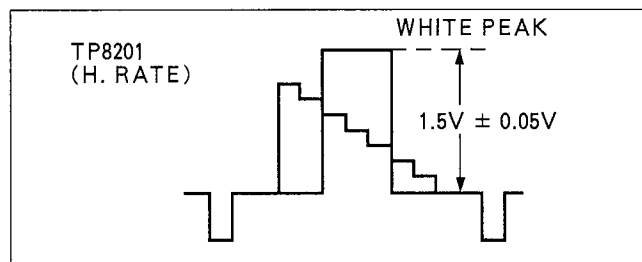

Figure E17
2. Adjust VR8202 so that the level becomes 1.5V ± 0.05V as shown in Figure E17.